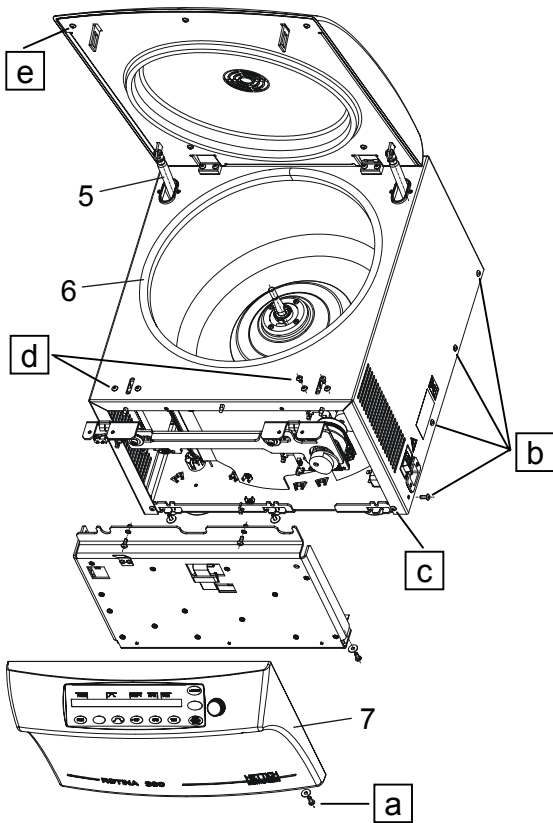
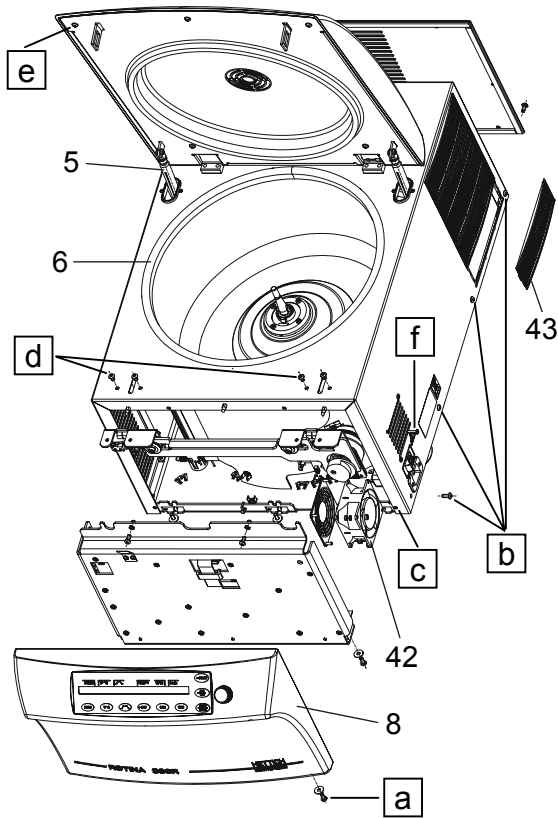

Fig. 3
Fig. 7
- Unscrew the 3 screws (pg. 78, Fig. 3, a ; pg. 79, Fig. 7, a) on the lower part of the front panel.
- Unscrew the fastening screws of the upper part of the centrifuge housing. 4 screws (pg. 78, Fig. 3, b ; pg. 79, Fig. 7, b) each on the left and right side of the upper part of the housing and 1 screw (pg. 78, Fig. 3, c ; pg. 79, Fig. 7, c) each left and right on the front of the upper part of the centrifuge housing.
- Unscrew the two screws (pg. 78, Fig. 3, d ; pg. 79, Fig. 7, d) each on the left and right lid lock on the upper part of the centrifuge housing and remove the lid lock.